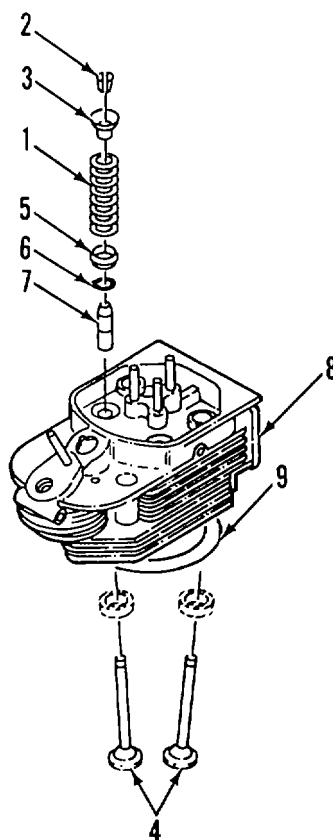

Figure 4-2. Valves and Valve Springs
(1) Using valve spring compressor, remove valves and valve springs (Figure 4-2).